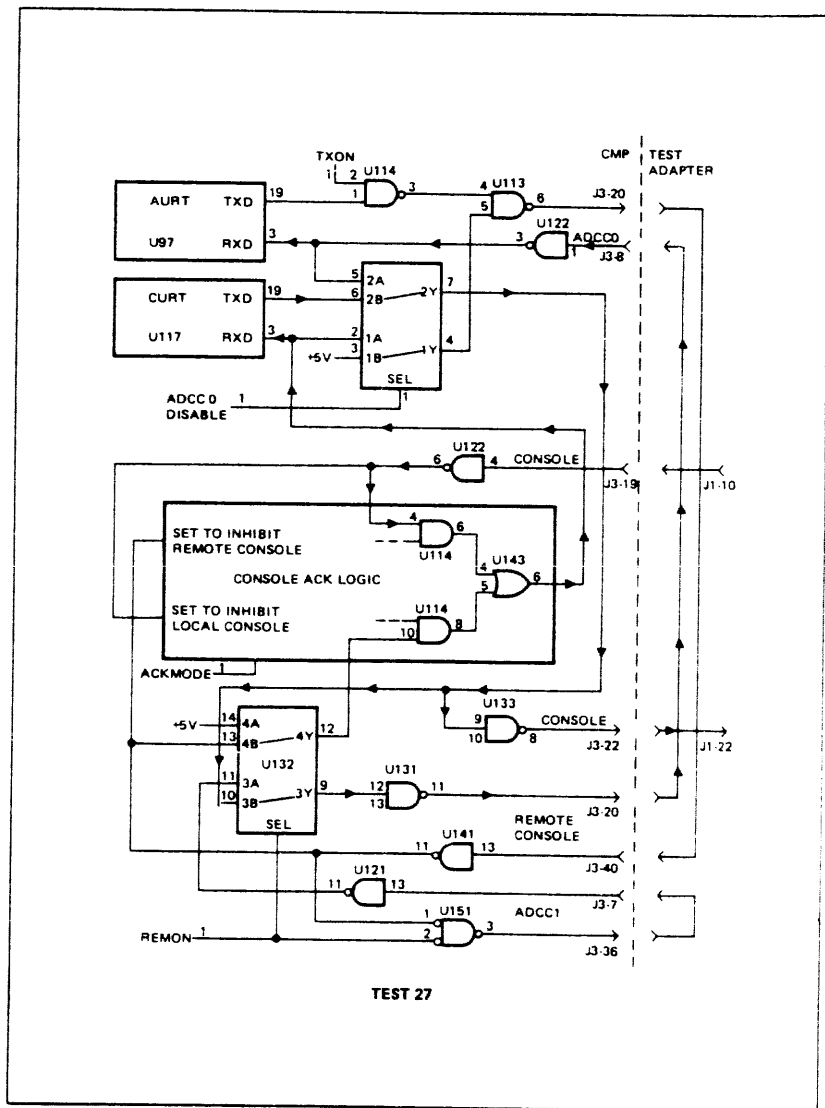

Figure 3-16. Data Comm Test Step 27
- 27 The ACK circuitry was pre-conditioned by step 26 to allow data from the console to be received by the AURT in this step. (See figure 3-16.)